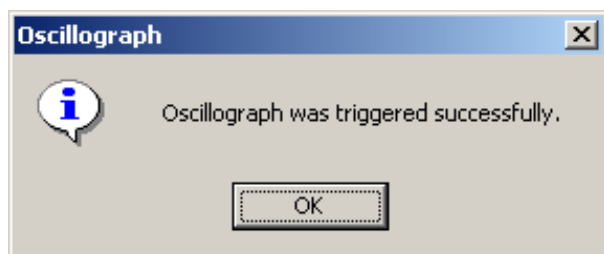

Figure 2-18 Oscillograph Successfully Triggered Dialog Screen
2. Select **Yes**, IPScom will display the Oscillograph Successfully Triggered Dialog Screen. (Figure 2-18)